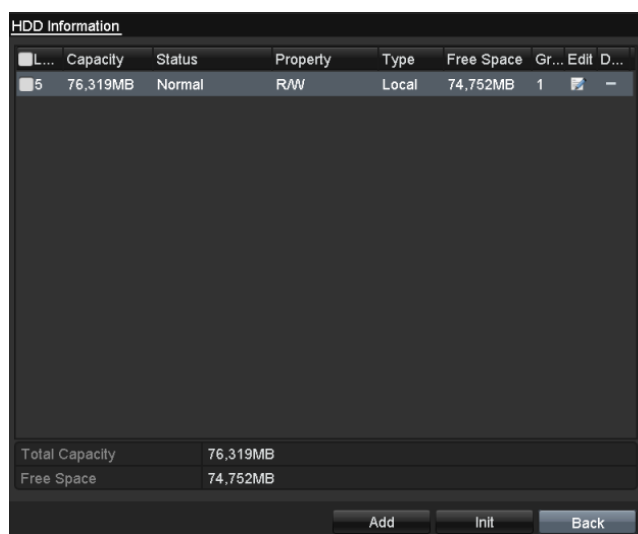

Figure 13. 19 View HDD Status (1)
2. Check the status of each HDD which is displayed on the list, as shown in Figure 13. 19.